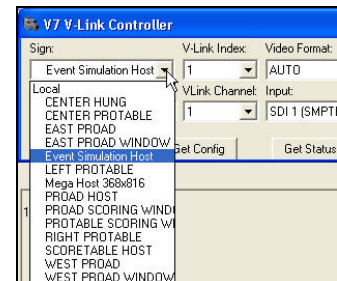

Figure 21: Selecting Sign
- b. Select the sign connected to the VIP located in the *Sign* window. Refer to **Figure 21**.
- In the *Sign* window in the upper left, select the sign connected to the VIP. Refer to **Figure 21**.